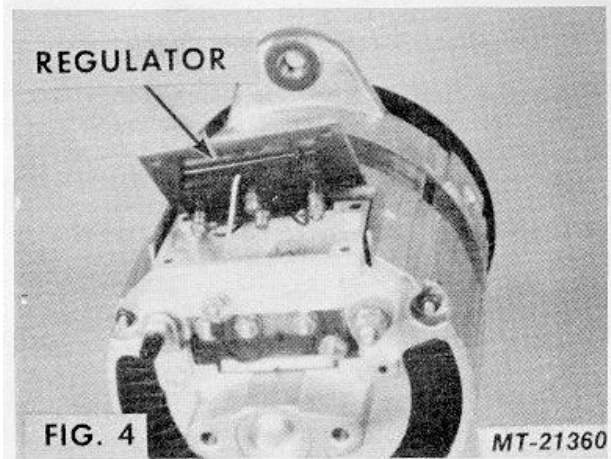

FIG. 4
2. Remove four screws and carefully lift regulator free of housing. Remove red and black leads from regulator, noting their position to facilitate reassembly (see Fig 4).
3. Remove lead from diode trio to terminal on regulator housing. Loosen inner nut, which will allow blue regulator lead to be withdrawn from under head of terminal screw. Remove regulator (see Fig 4).
4. Lift brush and spring assemblies out of housing (see Fig 4).